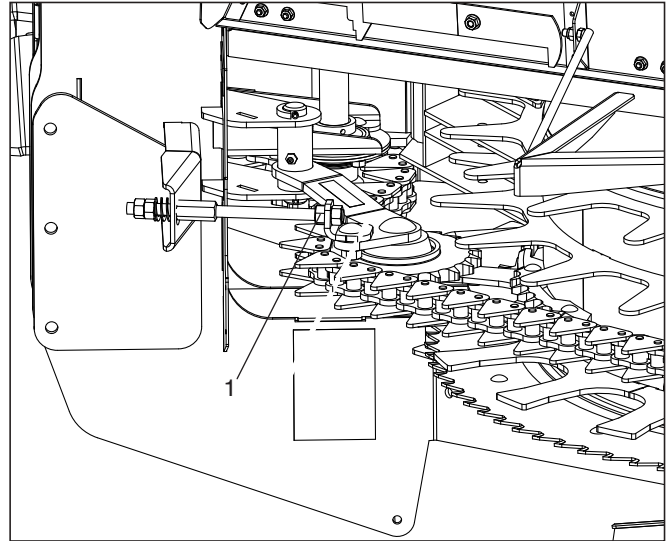

Figure 35 Loosen chain tightener
ADJUSTMENT - FIGURES 35 TO 37**
3. Loosen tighteners to release chain tension (item 1, figure 35).